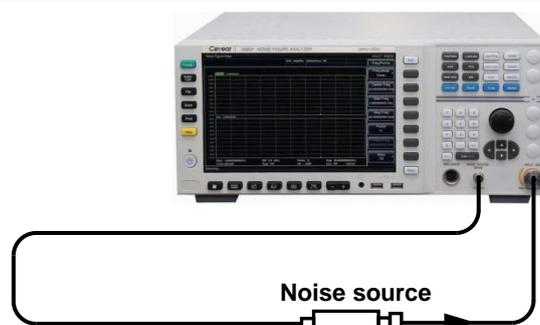

Fig. 3.30 Calibration connection
Step 3. Connect the noise source output directly to the NFA input, as shown in Fig. 3.30.